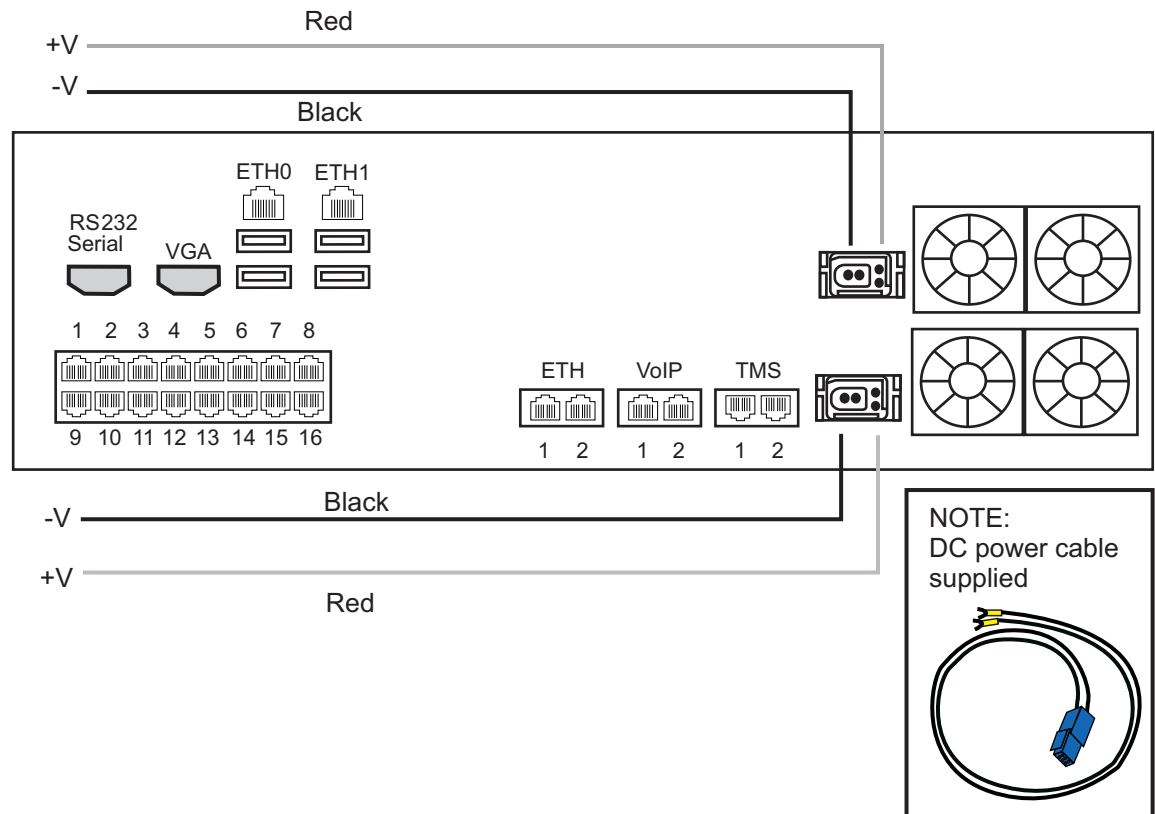

Figure 2.11 TMG5800 DC wiring diagram
1. Connect the DC cable supplied with the TMG5800, as shown in figure 2.11 on page 21, to the DC outlet at the rear of the TMG5800.
2. Connect one lead of the DC power cable to the positive terminal of the DC power source, as shown in figure 2.11 on page 21.